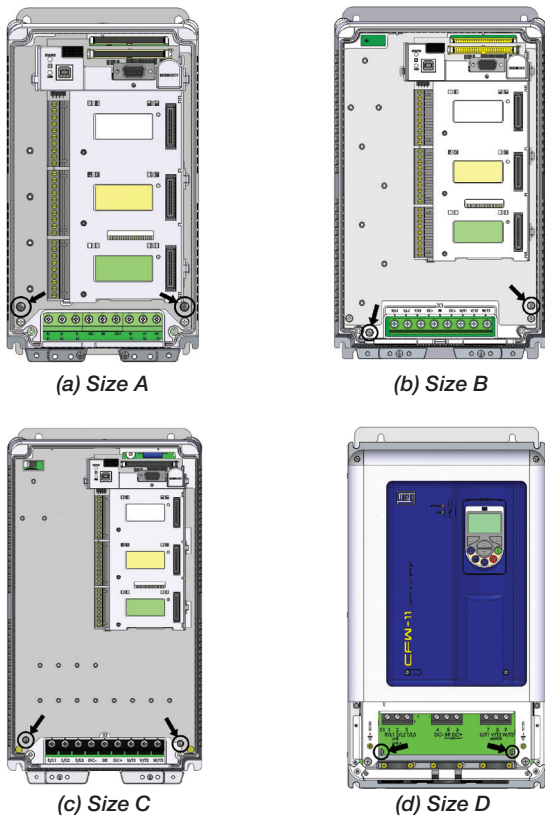

Figure 17 (a) to (d): Sizes A to D - Location of Grounding Screws - Remove for IT networks
- The power supply that feeds the inverter must have a grounded neutral. For IT networks some internal components must be disconnected as shown in figures 17 to 19.
For using models with internal RFI filters in IT networks follow the instructions on figures 17 to 19.